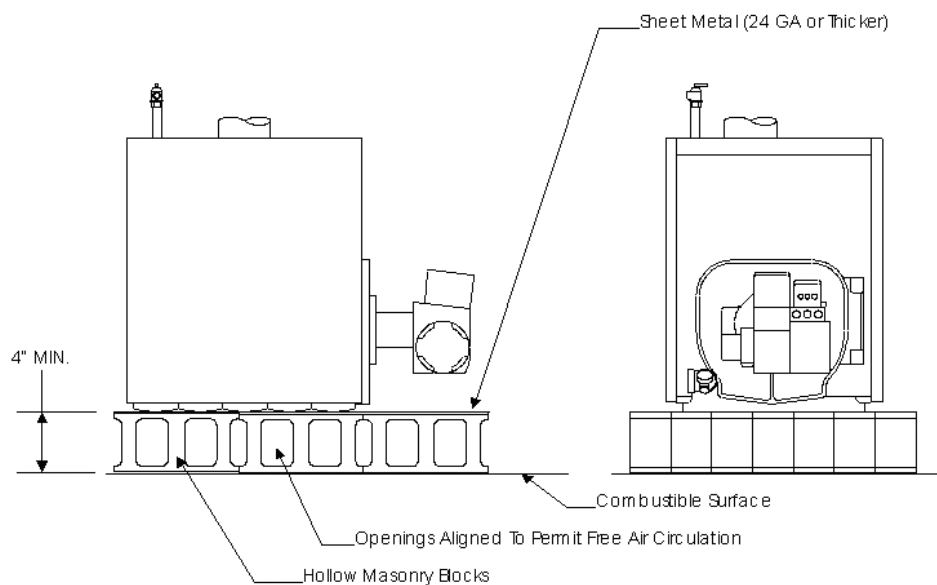

FIGURE 5.1: INSTALLATION OVER A COMBUSTIBLE FLOOR
3) Do not install this boiler directly on a combustible surface. Where it is desired to install this boiler over a non-carpeted combustible surface, install the boiler on the base shown in Figure 5.1.